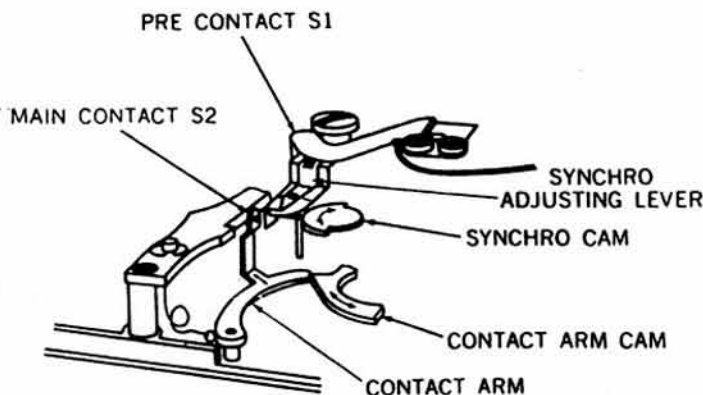

Figure 1-13. Flash Bulb Circuit, Contacts Open.
- (1) *Delay mechanism* (fig. 1-13). A synchro cam, on the shaft of the speed cam, positions the synchro adjusting lever. The cam brings the lever closer to, or further from, the contact arm as the shutter speed dial is adjusted.